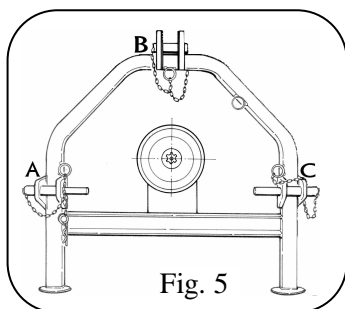

Fig. 5
V.PF model connections (Fig. 5)